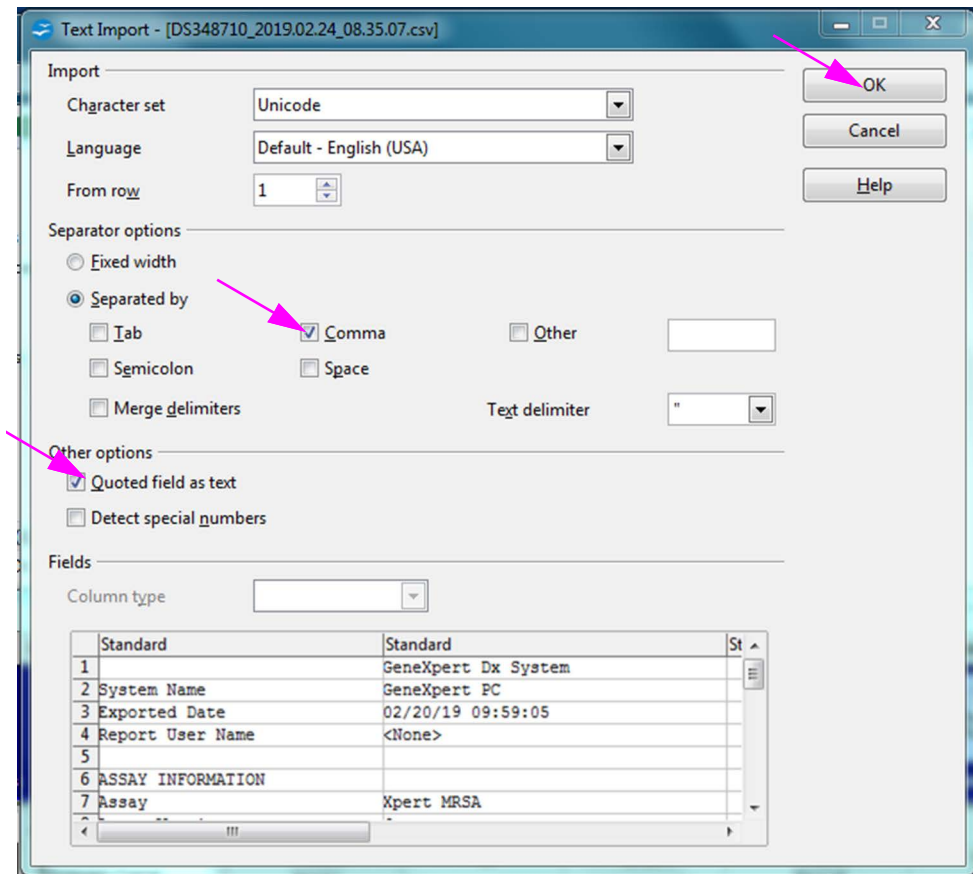

Figure D-4. Text Import Screen with New Settings Selected
5. Select the checkbox to the left of **Comma** and **Quoted field as text**. See Figure D-4.